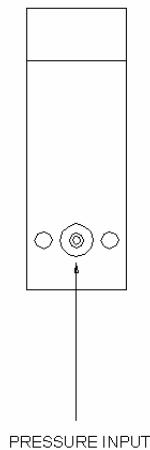

Fig 2. Test of Pressure Transmitter
- 2) Connect the testing apparatus to the pressure input part and input the pressure within the working area of the transmitter. (**Fig 2.**)